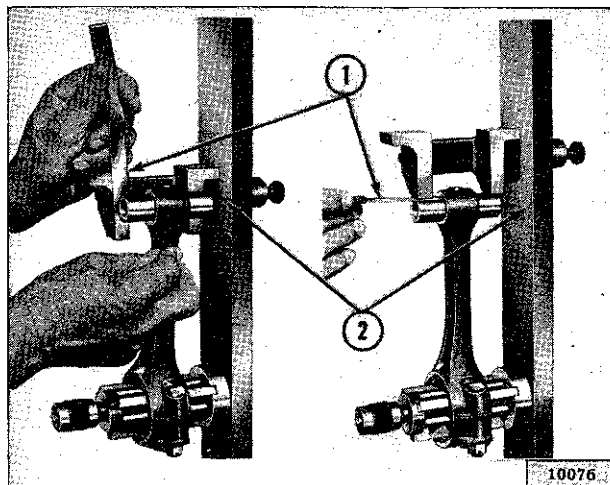

FIG. 39—CHECKING CONNECTING ROD ALIGNMENT
**d.** Check and correct connecting rod alignment with a connecting rod aligning fixture as shown in Fig. 39. Follow the instructions furnished with the fixture.